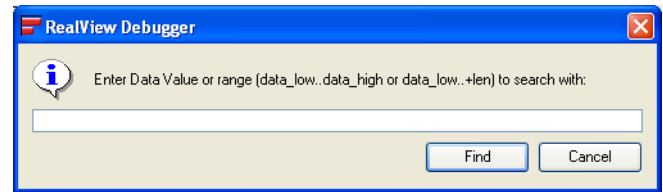

Figure 9-10 Finding a data value match
1. Select **Find** → **Find Data Value...** from the Analysis window menu to open the Prompt dialog box. Figure 9-10 shows an example: